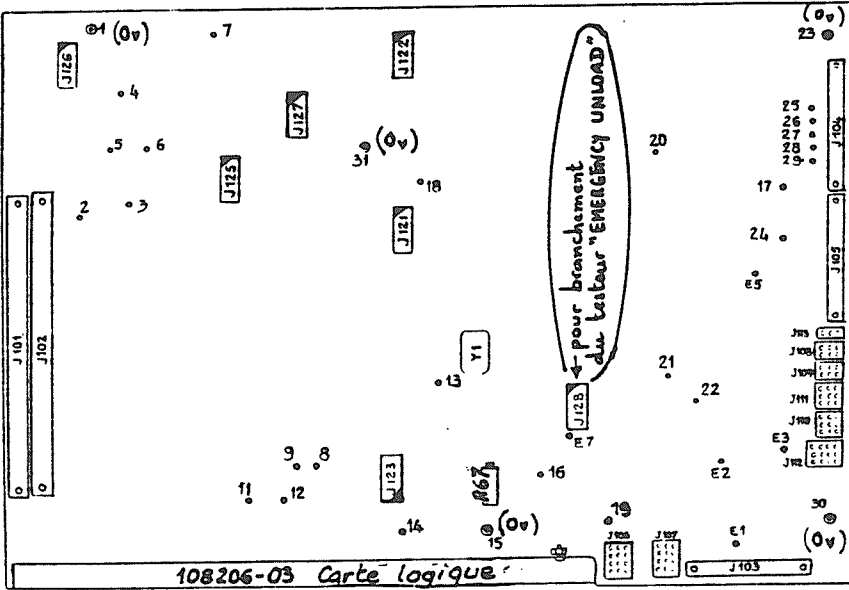

Fig 19
- LTP : " " " " "Logic" (voir fig 19)